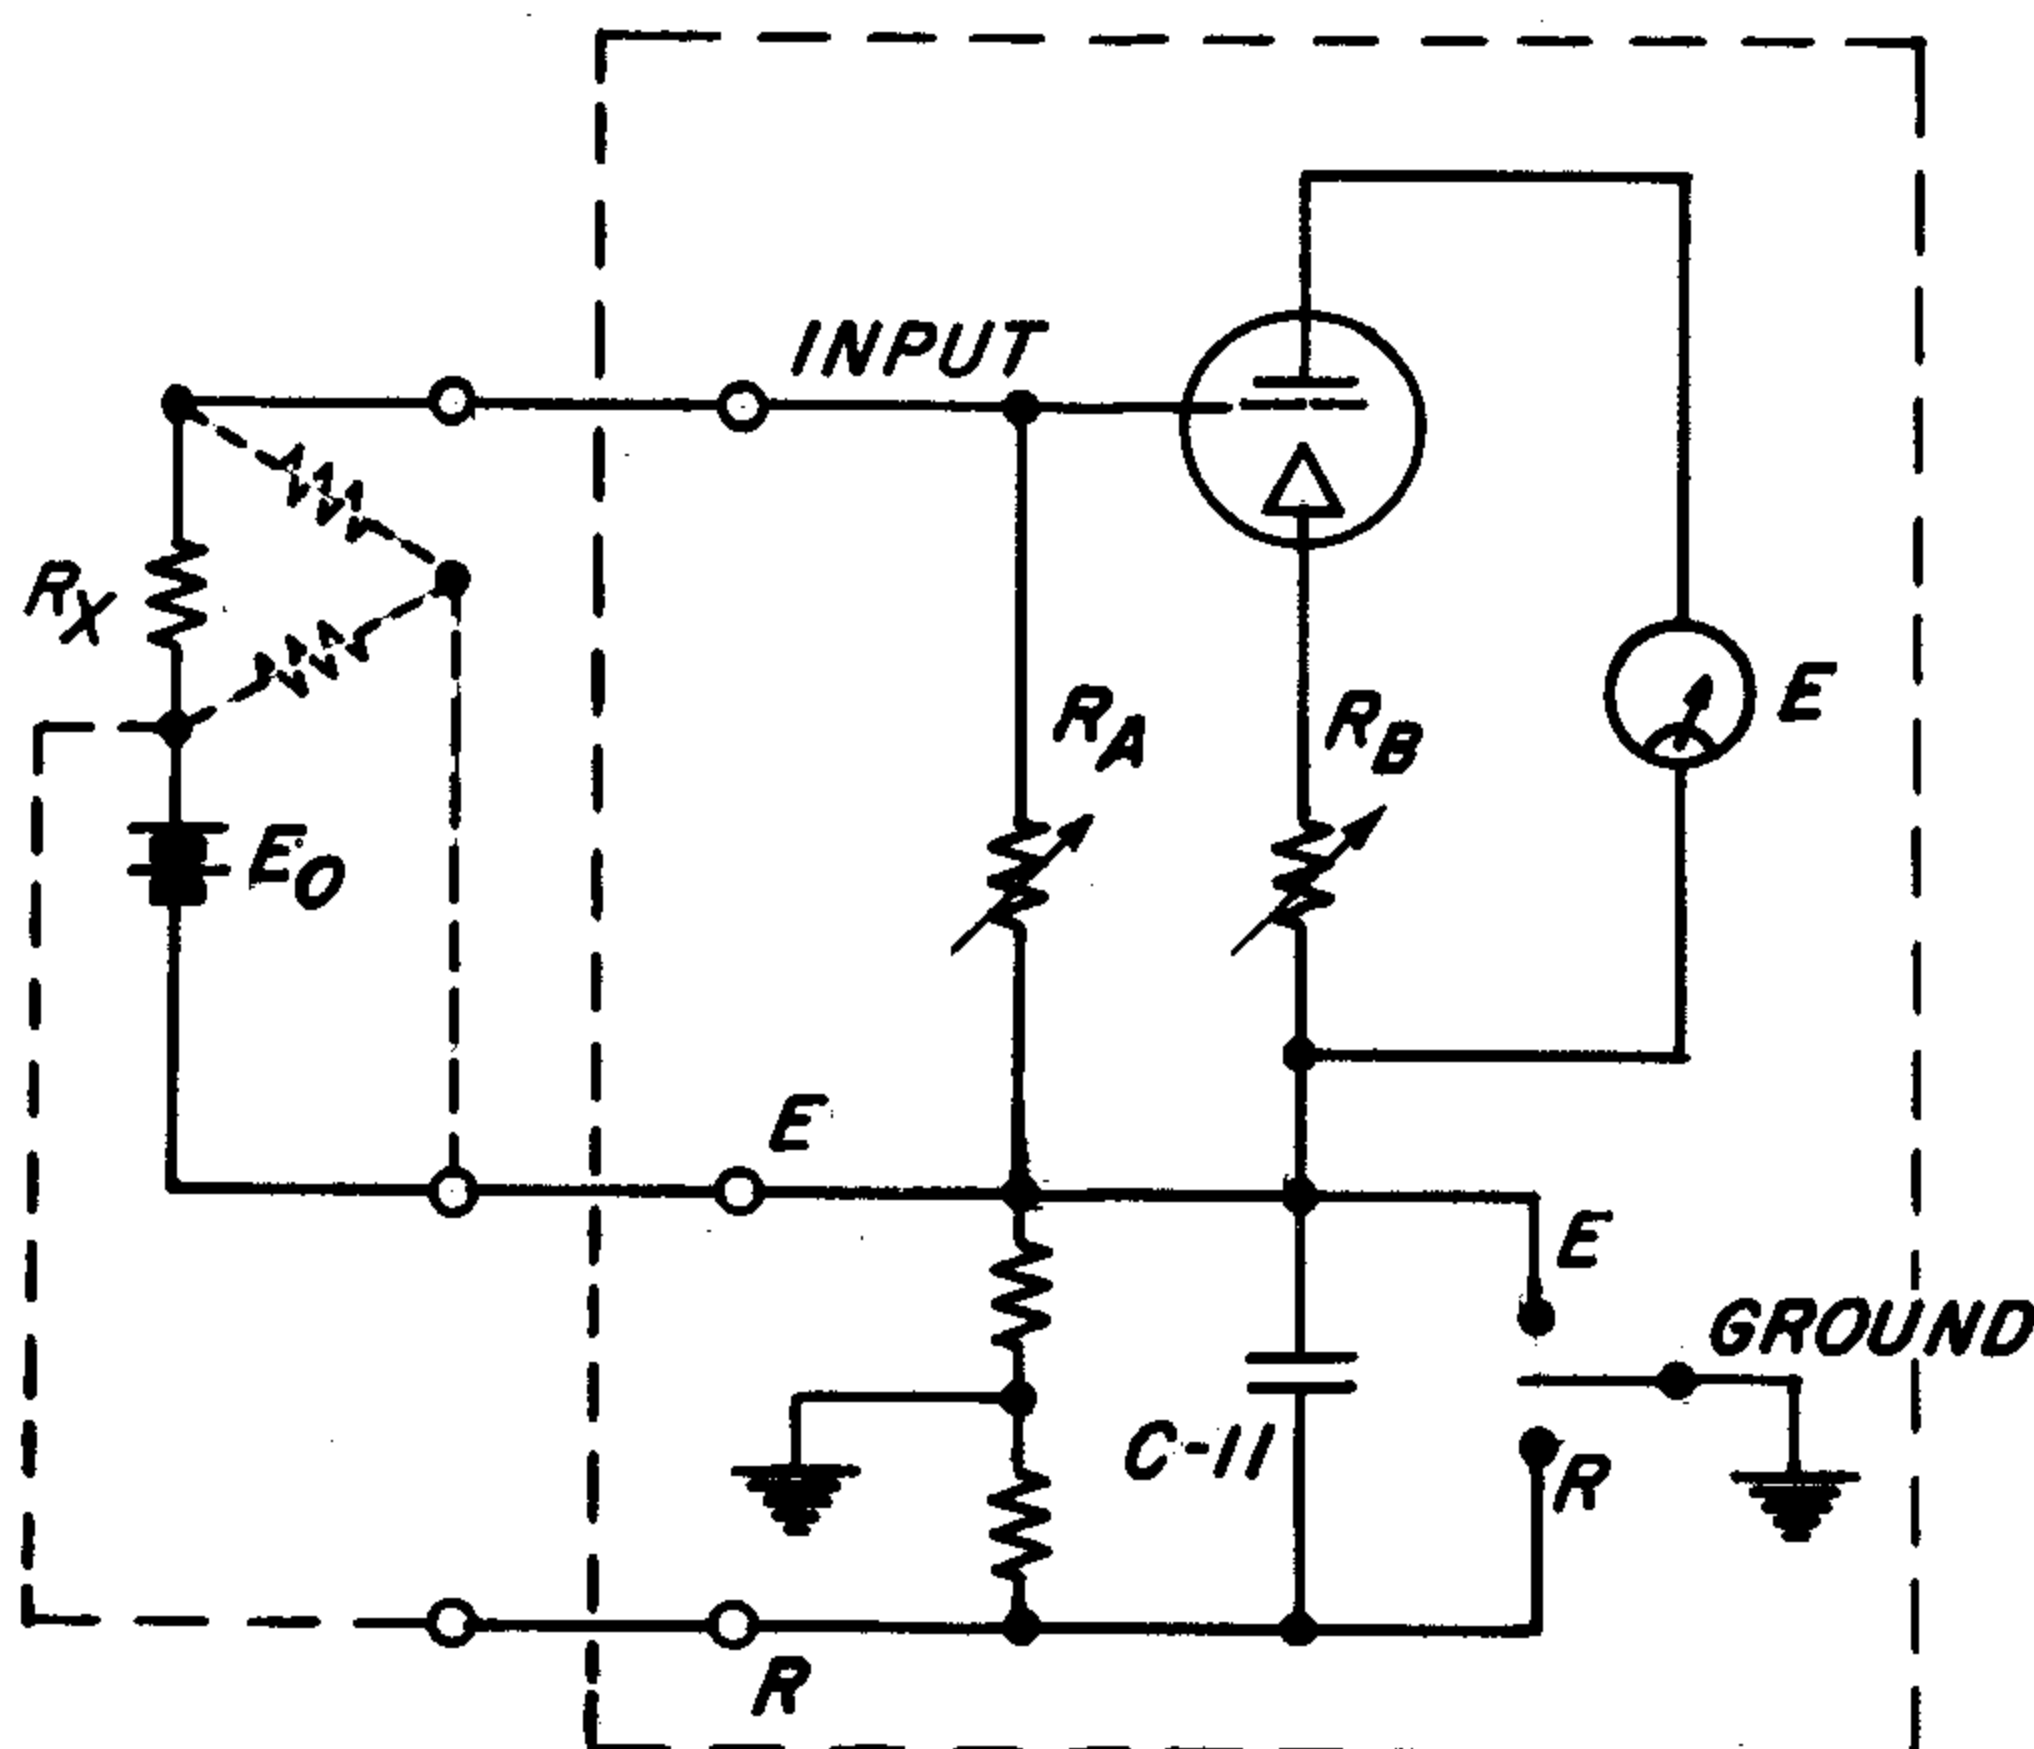

Figure 6. Resistance Measurement with External D-C Supply.
4.5.1 CONDITIONS OF MEASUREMENT. The external supply must be either batteries or a stabilized line-operated supply. See Figure 6.
ited to the 600-volt rating of C11 (Figure 6), a capacitor in the instrument. The unknown resistance must be capable of withstanding the full voltage of the supply.
b. Set the GROUND switch to R if the unknown is to be grounded, to E if the unknown is not to be grounded. In either case, note from Figure 6 that the external supply will be grounded. If the unknown resistance is grounded, instrument leakage from input to ground (about 10^{14} ohms) will be across the unknown and therefore may affect the final reading. The actual leakage value can be determined from a preliminary measurement with the unknown resistance disconnected.
d. If the unknown resistance is to be grounded, connect the junction of the external d-c supply and the unknown resistance to the R terminal or to the ground terminal. If the unknown is a three-terminal resistance (shown dotted in Figure 6) connect the third terminal to the E terminal.